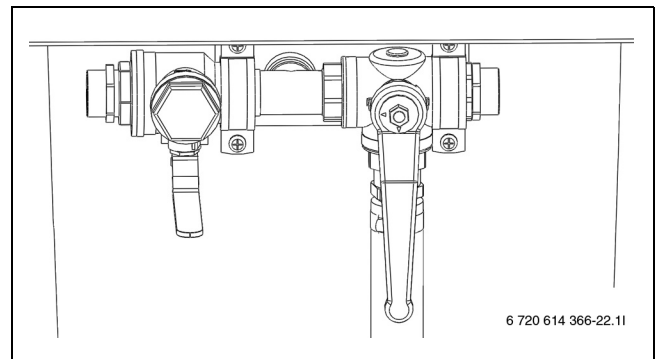

Fig. 28 Filling station in mixing position
- ▶ Turn the valves on the filling station so that they are in mixing position (→ Figure 28).